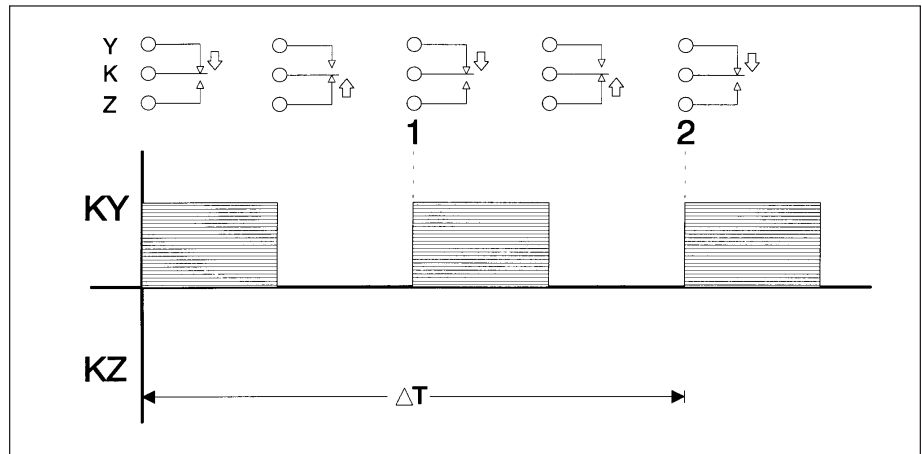

Figure 3-3: 2-wire pulse train
Most energy management system digital inputs use only two of the three wires provided with a KYZ pulse initiator. This is referred to as a 2-wire pulse initiator application. Figure 3-3 shows a pulse train from a 2-wire pulse initiator application. Refer to this figure when reading the following points:
- In figure 3-3, the transitions are marked as 1 and 2. Each transition represents the time when the relay flip-flops from KZ to KY. At points 1 and 2, the receiver should count a pulse.